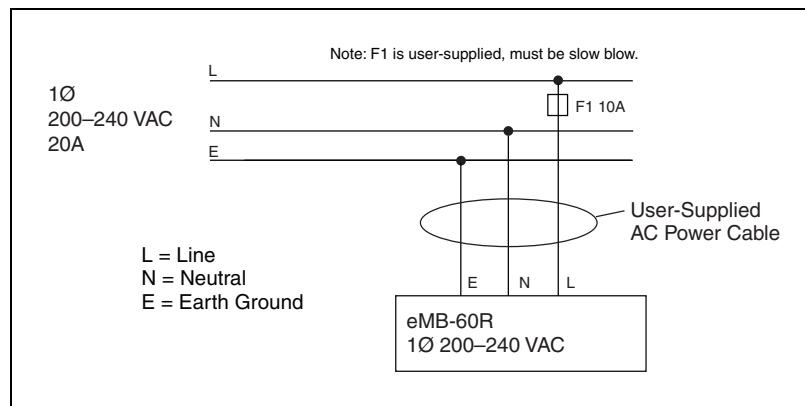

Figure 5-5. Typical AC Power Installation with Single-Phase Supply
1. Connect the unterminated end of the AC power cable to your facility AC power source. See Figure 5-5. and Figure 5-6.